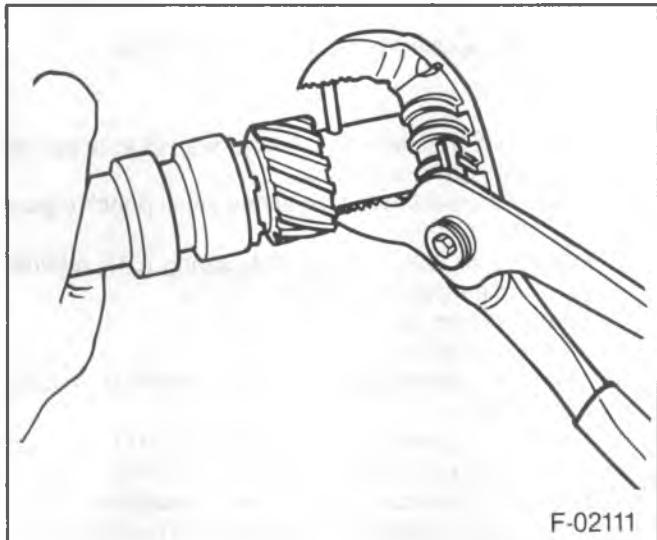

Figure 21—Installing the Roll Pin
- 17. Roll pin into the driven gear (figure 21).
- 18. Distributor cap (23) onto the housing (30) with the tab on the rim of the cap in the notch of the housing.